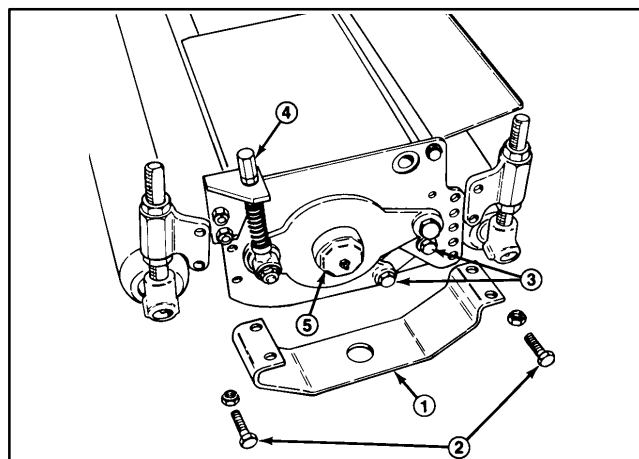

Figure 20
1. Remove the guards from each end of the cutting unit and the front and rear roller assemblies (Fig. 20).
13. Remove the dust cap (Fig. 20). Press the bearing and seal out of the housing.